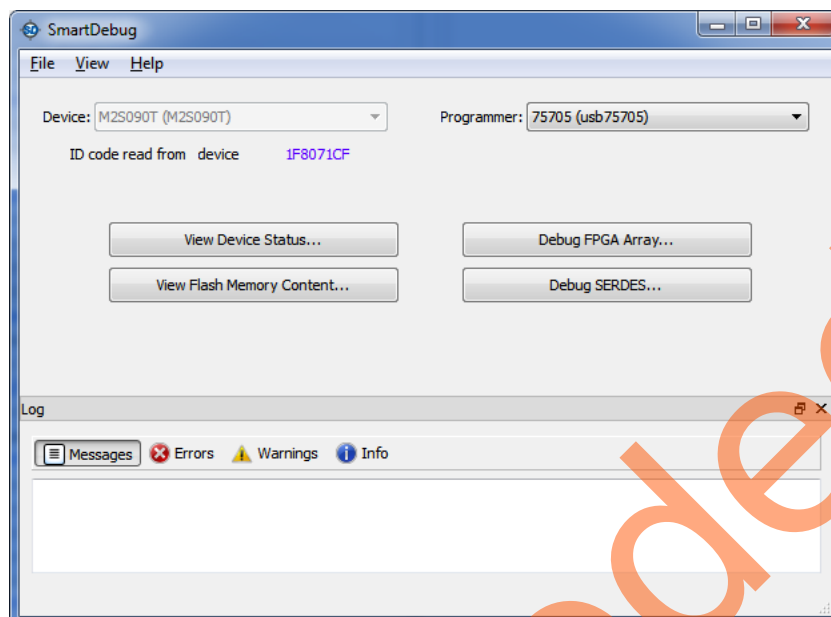
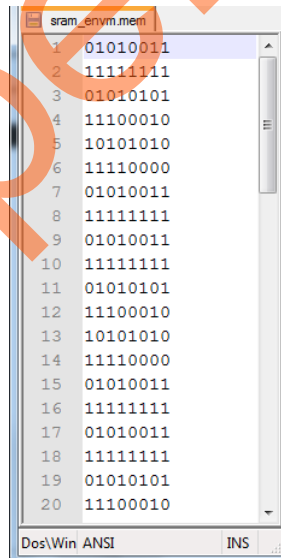
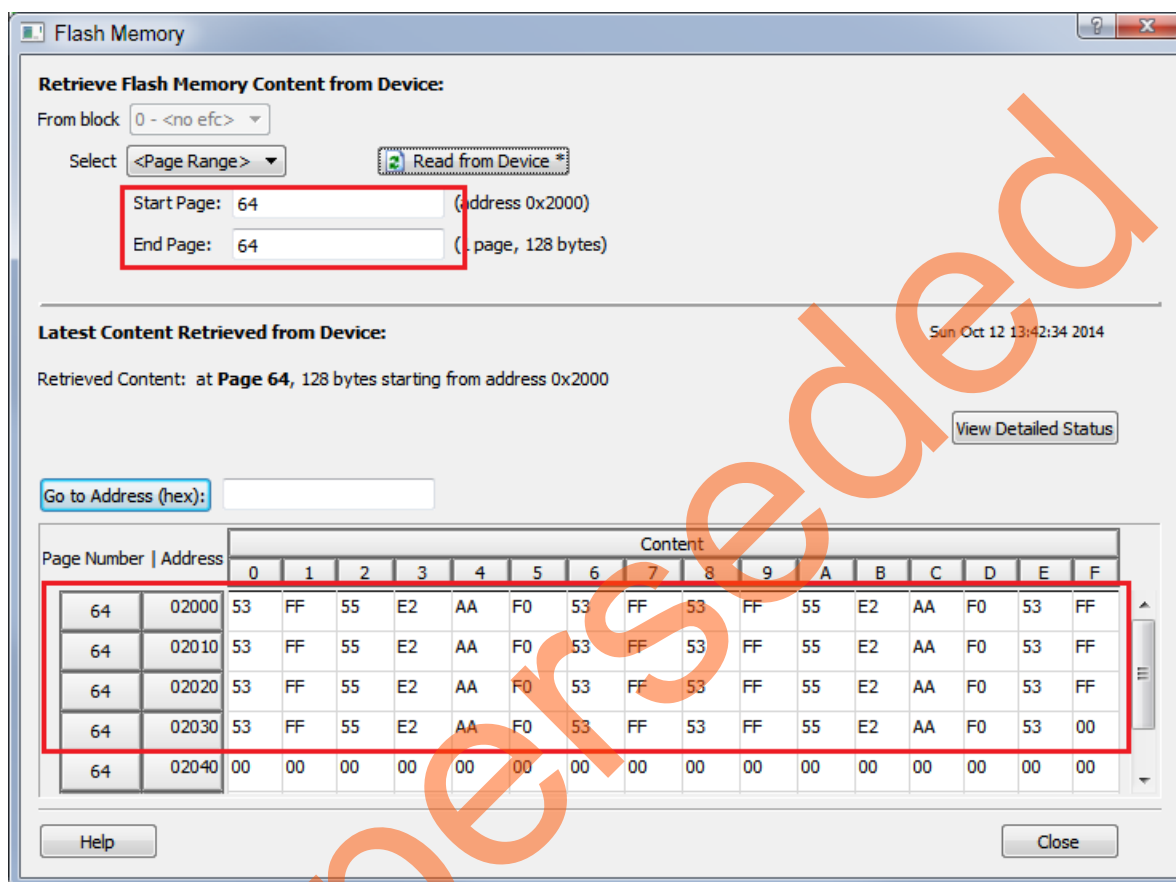
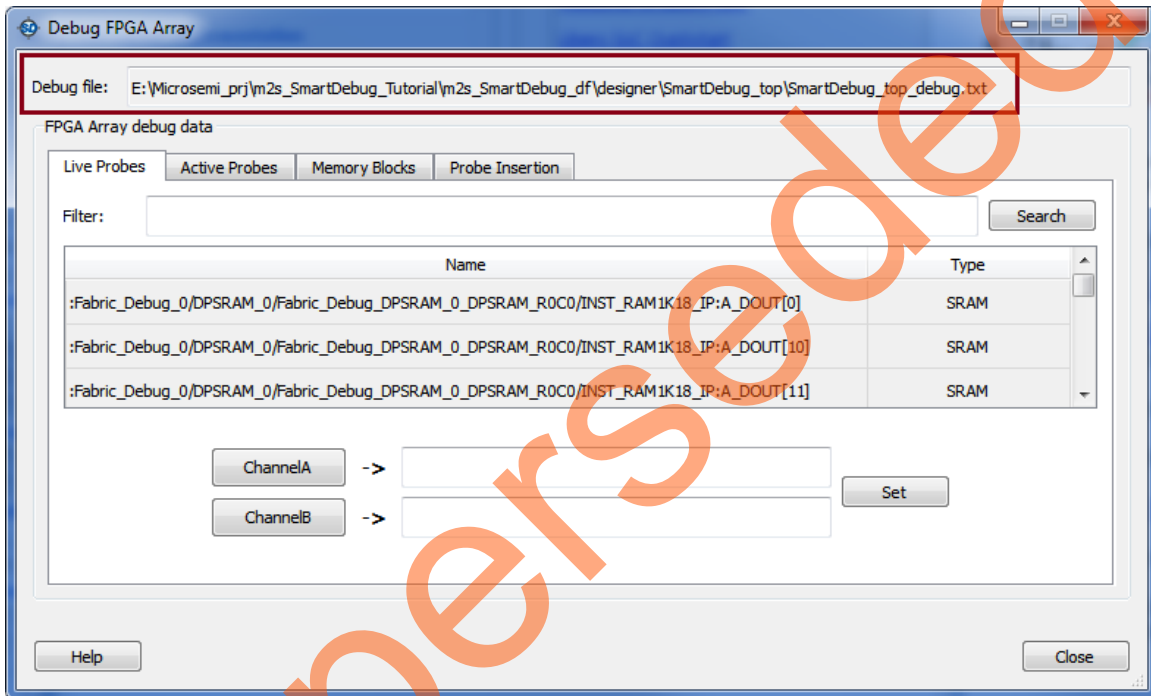

Figure 10 • SmartDebug Window Debug Options
Figure 12 • Memory File Content Saved into the eNVM
Figure 13 • Flash Memory (eNVM) Content Read from the Device
Figure 14 • Debug FPAG Array Window
The **SmartDebug** window is displayed, as shown in Figure 10.
The View Flash Memory Content can be accessed from the **SmartDebug** window, as shown in Figure 10 on page 10. This option provides the capabilities to retrieve the eNVM content from the device using the Memories pages of the System Builder under the SERDES_Debug block. To demonstrate how to retrieve the content of the eNVM, the data to be programmed into the eNVM is defined first. One way to perform this is by defining an eNVM data storage client using the eNVM configurator. The client can be stored into any page of the eNVM. eNVM Page 64 is used here for demonstration purposes. Figure 12 shows an excerpt of the data storage client content that was defined in the eNVM.
The content of eNVM is retrieved from the device, displayed, and is equivalent to what is shown in Figure 12.
1. On the **SmartDebug** window, click **View Flash Memory Content** (see Figure 10). The **Flash Memory** window is displayed, as shown in Figure 13.
The Debug FPGA Array can be accessed from the SmartDebug window, as shown in Figure 10 on page 10. On the **SmartDebug** window, click **Debug FPGA Array** to display the **Debug FPGA Array** window, as shown below in Figure 14.